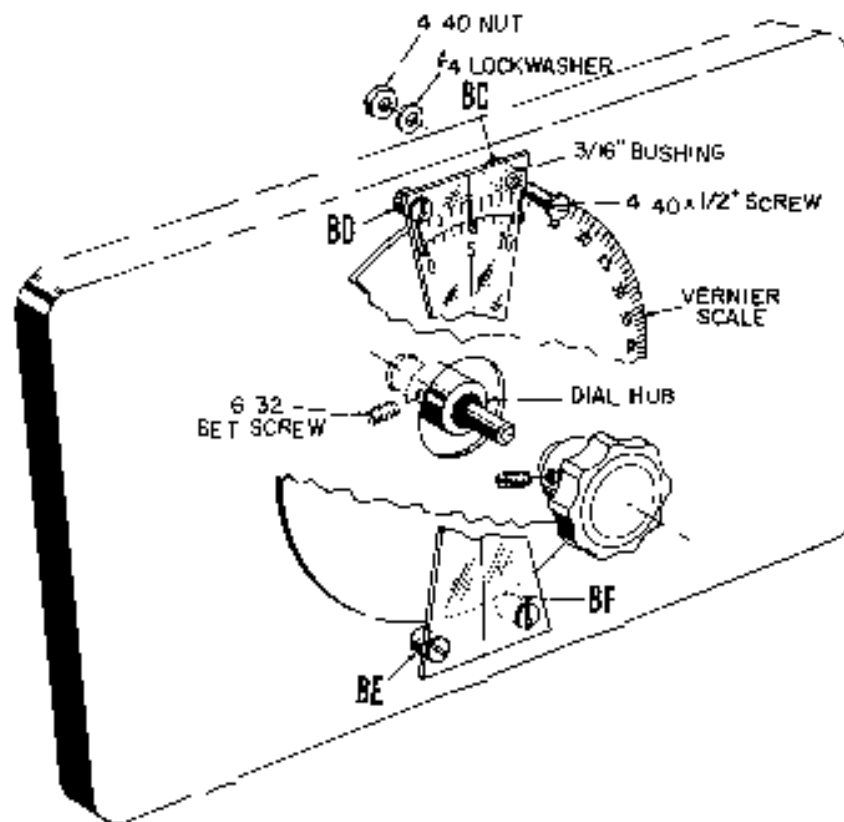

FIGURE 8
- ( ) 20 Insert the #6-32 x 3/16 set screw into the tapped hole in the dial hub. Mount the dial on the variable capacitor shaft. See Figure 8. Do not tighten the set screw at this time.
- ( ) 21 Mount the plastic pointer using four #4-40 x 1/2" screws, 3/16" bushings, #4 lockwashers and #4 nuts at locations B1, BD, BE and BF, with the 0 to 10 vernier at the top of the panel. See Figure 8.
- ( ) 22 Mount the large knob on the variable capacitor shaft and tighten the set screw. Turn the knob counterclockwise until the capacitor is at maximum capacity (fully closed). Rotate the dial by hand until the 100 on the vernier dial scale is aligned with the "0" of the vernier on the plastic pointer. Hold the dial in alignment and tighten the set screw in the hub. See Figure 8. Check operation of the dial to see that it does not rub against either the panel or the plastic pointer.